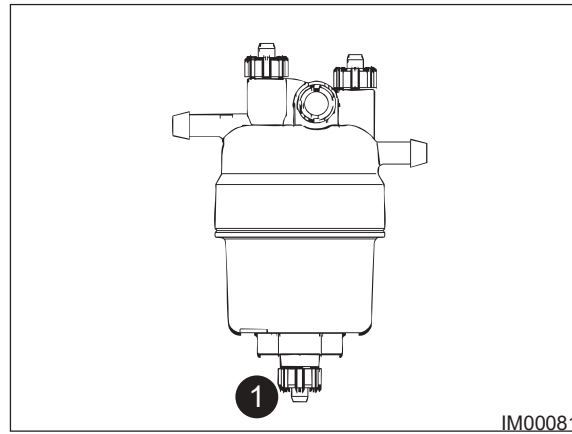

Fig: 11.18 - Water Separator
3. Open the drain valve (Item 1, Fig: 11.18) and catch the draining fluid in a suitable container. Dispose of the drained fluid correctly.
4. Close drain valve (Item 1, Fig: 11.18).